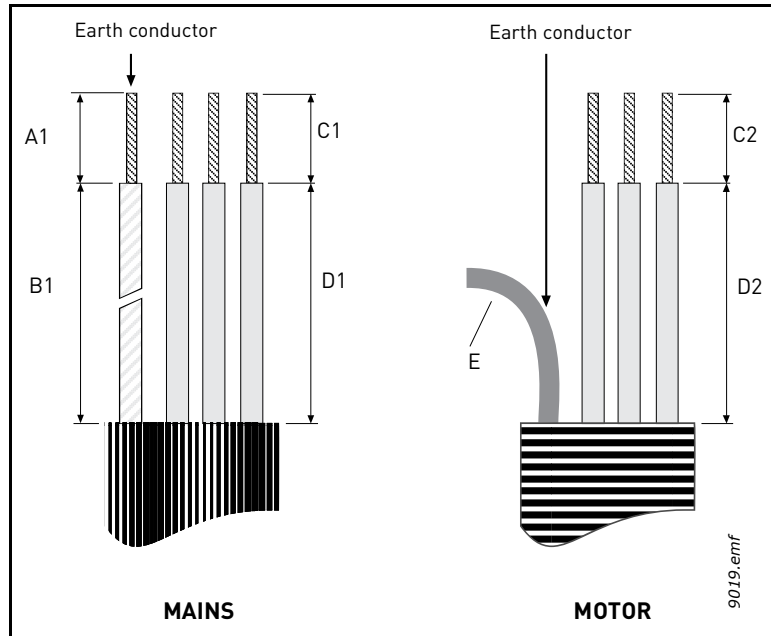
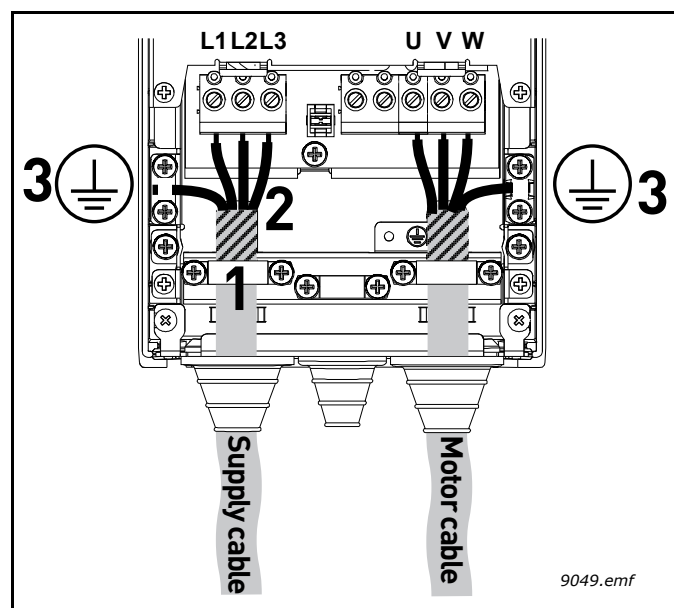

Figure 14. Stripping of cables
Figure 21.
7	<p>Connect the stripped cables (see Figure 14 and Figure 18) as shown in Figure 21.</p> <ul style="list-style-type: none"> • Expose the shield of all three cables in order to make a 360-degree connection with the cable clamp (1). • Connect the (phase) conductors of the supply, brake and motor cables into their respective terminals (2). • Form the rest of the cable shield of all three cables into “pigtails” and make a grounding connection with a clamp as shown in Figure 21 (3). Make the pigtails just long enough to reach and be fixed to the terminal - not longer.